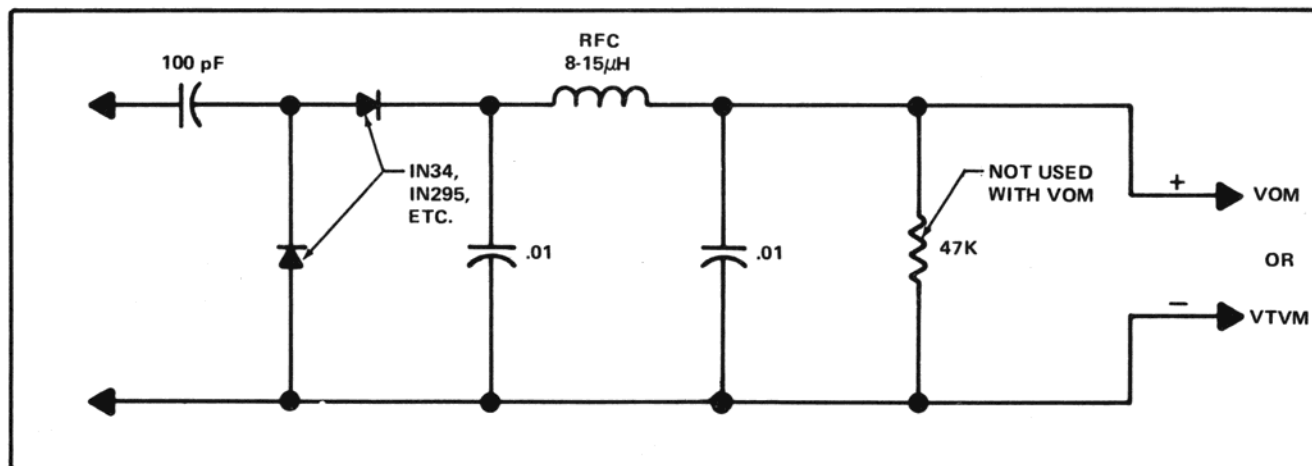

Figure 4-2 RF Probe
*If no probe is available for the mutimeter, one may be fabricated as shown in Figure 4-2.
- Connect a VOM through an RF probe to TP1. If no probe is available, one may be fabricated as shown in Figure 4-2.